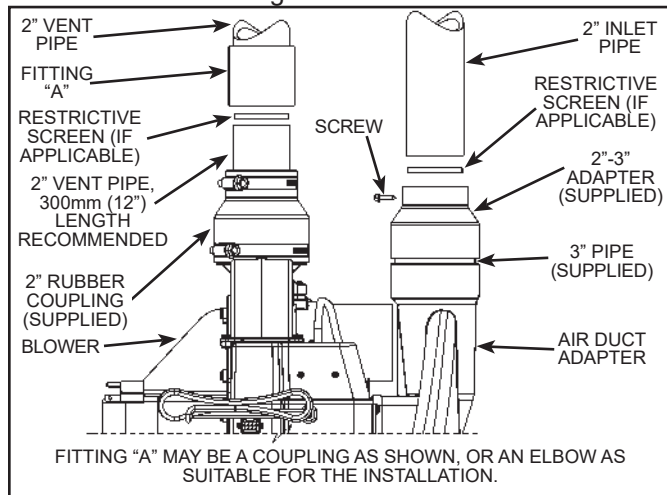
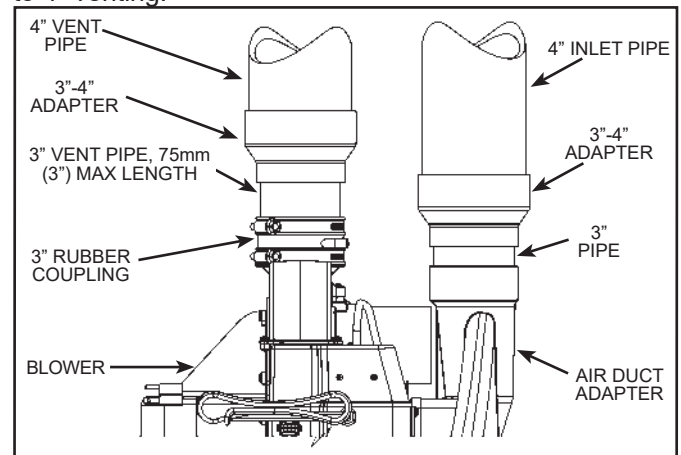

Figure 37.
Figure 40.
Note: If a vent screen in the air intake vent system is located at the blower, this joint should not be cemented but secured with a screw to allow servicing (see Figure 37 through Figure 40).
4. Make sure that the plastic tubing is still attached from the air pressure switch to the port on the blower motor housing. Make sure the plastic tubing is not folded anywhere between the pressure switch and the blower motor housing (see Figure 37 through Figure 40).
Important: These connections must be properly seated and tightened to prevent the leakage of flue gases into the area. See Figure 37 through Figure 40.
Figure 37 shows the configuration for heaters direct connected to 2" venting.
Figure 40 shows the configuration for heaters connected to 4" venting.
The restrictive screen (see Figure 36) and the air intake piping should be secured in place with a screw. To prevent damage to the equipment, first position the restrictive screen in place, then drill a pilot hole suitable for the screw being used. The screen must be fully seated and the screw should not interfere with the airflow through it. Once the pilot hole is drilled, place the intake pipe in position and secure in place using the screw (see Figure 37 through Figure 40). Do not use glue to secure this joint in order to allow the screen to be removed for cleaning. The screen in the exhaust piping should be located close to the blower and all exhaust piping joints should be glued.
If the installation requires restrictive screens (see Figure 36) the restrictive screens should be installed near the blower as shown in Figure 37 through Figure 40. If the restrictive screens are installed near the blower, it is recommended that debris screens (see Figure 36) be installed at the terminations.